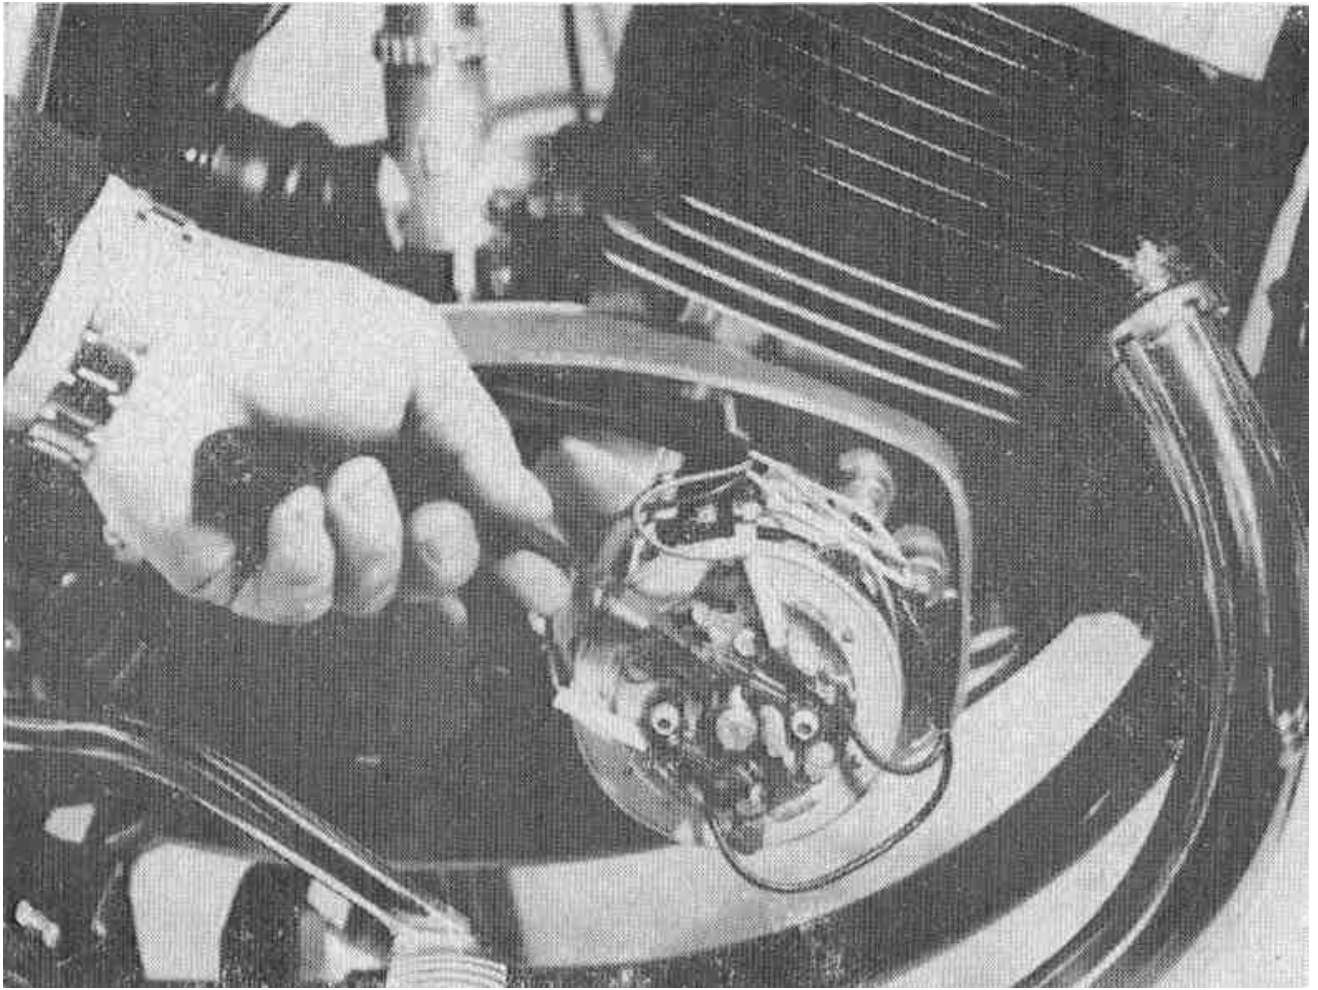

Fig. 28 – Measuring of contact breaker point gap
- b) With the piston in its TDC check the contact points for contamination and, if necessary, smooth their contact faces with a fine file so that they mate perfectly when the contacts are closed. In this position, measure the gap between the contact breaker points with the feeler gauge (see Fig. 28) included in the tool kit. The thinner blade of the feeler gauge (0.3 mm) must be a slide-fit, the thicker blade (0.4 mm) must not pass between the points. If this is not the case, adjust the gap after releasing the fixed contact. Retighten the contact (screw) after adjustment.